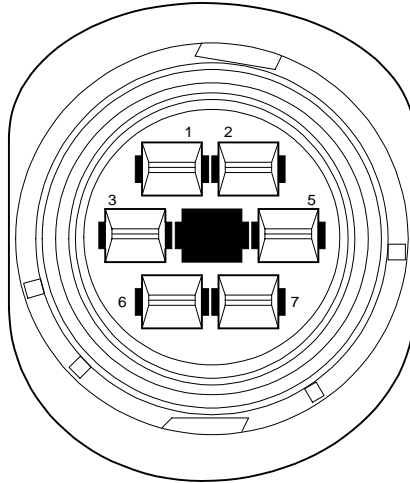

Figure 2-2 Front Panel POWER IN Connector
5. Connect external ALARM interface to external summary board. Refer to figure 2-2 for pin locations and table 2-4 for pin designation.